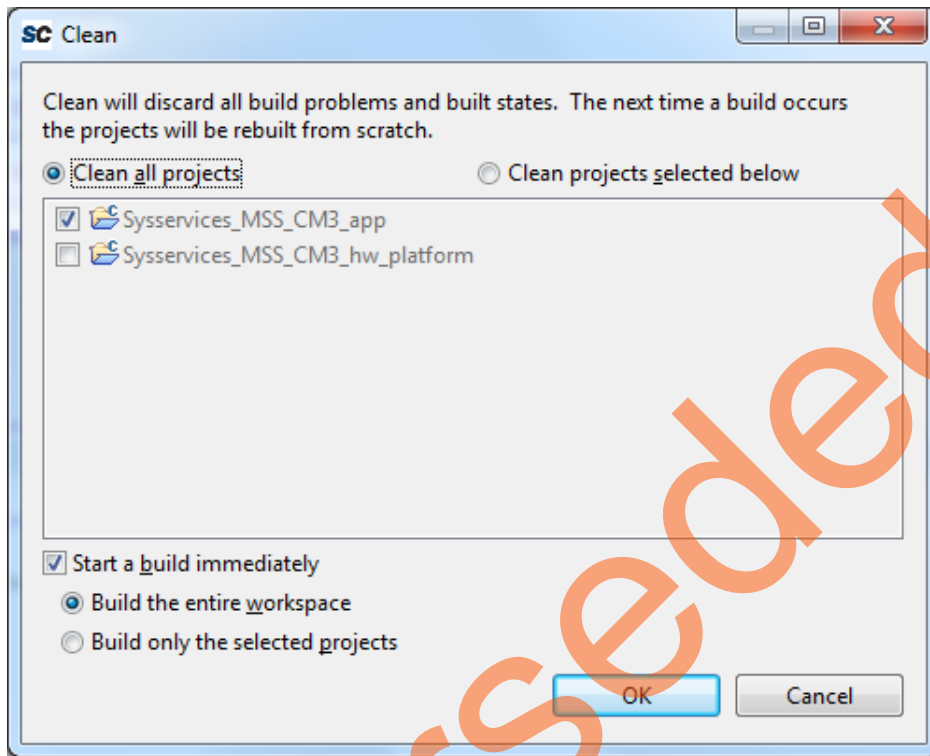

Figure 36 • Settings for a Clean Build
6. Perform a clean build by selecting **Project > Clean**. Accept the default settings in the **Clean** dialog box and click **OK**, as shown in Figure 36. SoftConsole project must not have any errors.